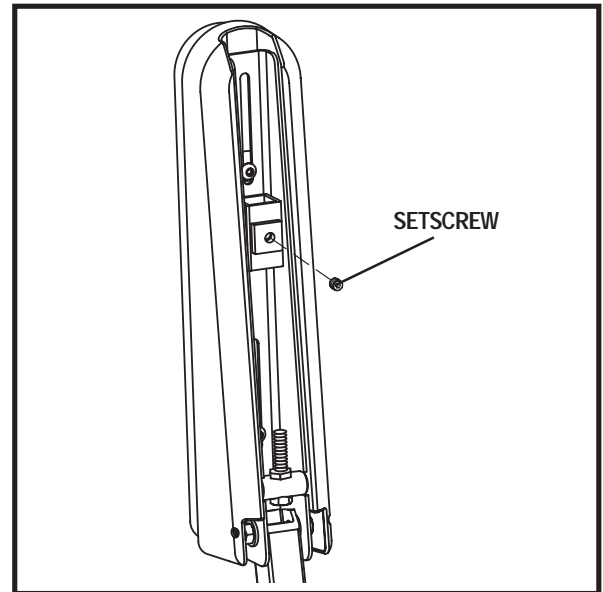

Figure 16. Underside of Armrest
2. Loosen the setscrew on the controller bracket. See figure 16.
4. Loosen the setscrew under the armrest. See figure 16.